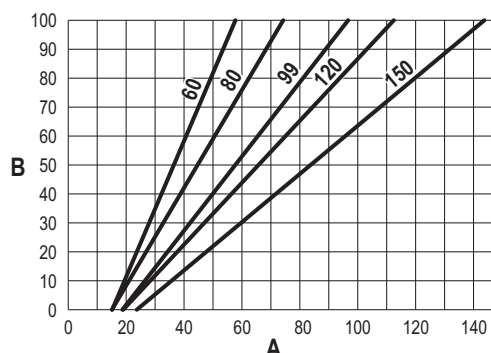

fig. 81
- Press the **contextual buttons 1 and 2** to increase or decrease the heating capacity (minimum = 00 - maximum = 100). See the diagram "Heating Capacity Adjustment" (fig. 81).